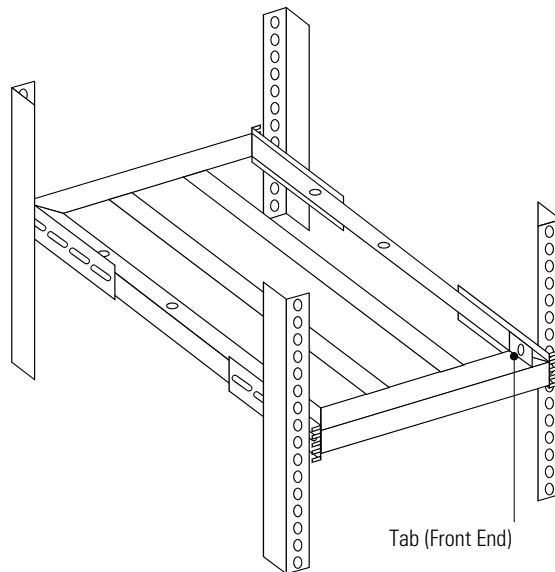

Figure 8. Attaching the Frame to the Rack
5. Attach the frame to the rack using appropriately-sized bolts for your rack (not supplied). See Figure 8.
NOTE Figure 8 is only an example for mounting position. Different rack manufacturers may vary in design and/or dimensions. Some racks have a "C" channel in the front; the frame mounting brackets should be attached to the rear of the "C."